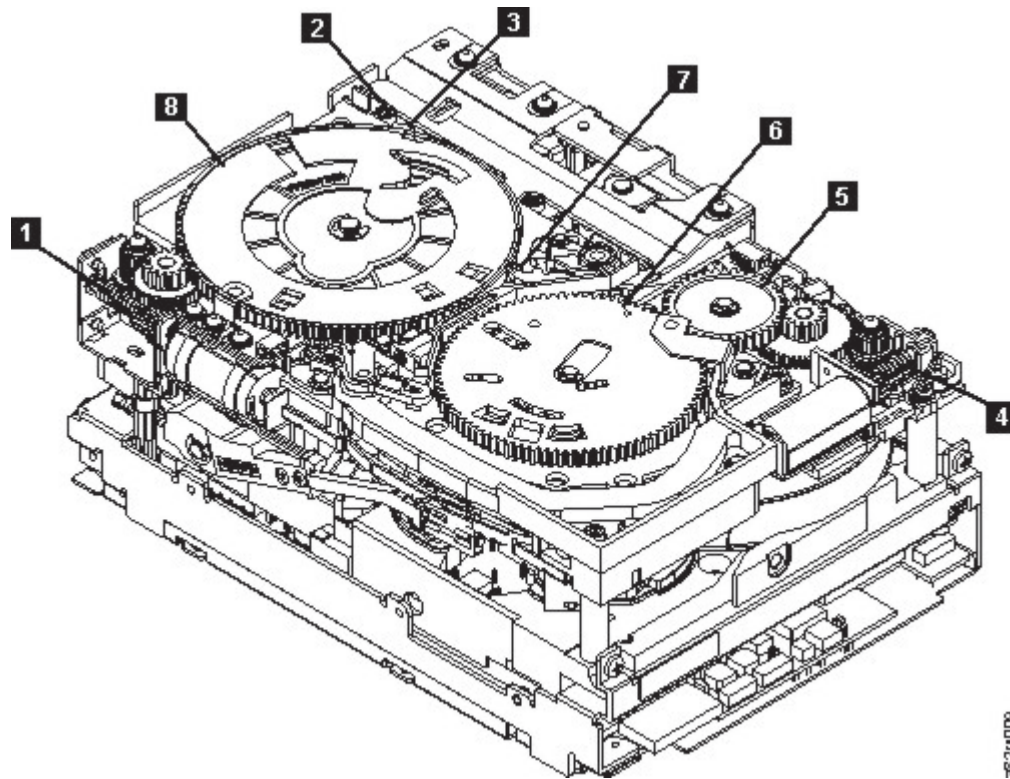
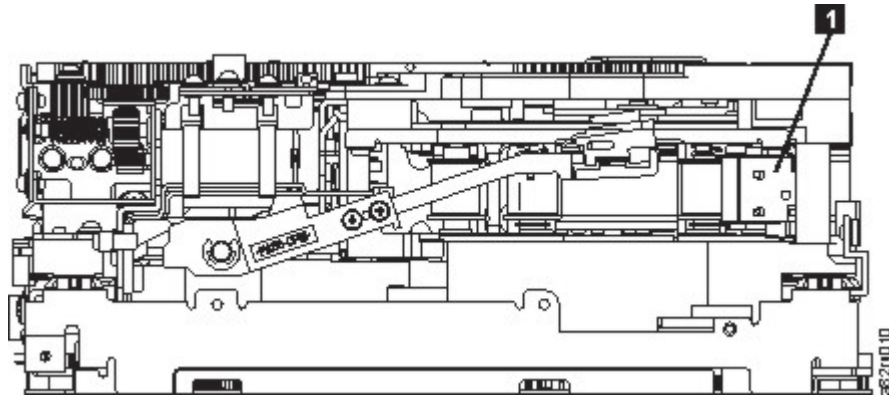

Figure 123. Drive with cover removed to reveal gear train.
Figure 124. Leader Block Assembly (LBA)
6. Locate the threader motor worm gear (4 in Figure 123 on page 258) on the rear of the drive. Use your finger to rotate the threader motor worm gear and slowly rotate the threader mechanism gear (6 in Figure 123 on page 258) clockwise.
This action rotates the threader motor worm gear (4 in Figure 123 on page 258) clockwise, drawing the LBA into the cartridge.
7. As the tape leader block assembly (LBA) is secured in the cartridge, you hear the LBA retention spring clips click into place. If you do not hear the click, continue rolling until the threader motor worm gear (**4** in Figure 123 on page 258) stops. The LBA is in the correct position.
- Loader mechanism gear (**6** in Figure 123 on page 258) nearest the front of the drive that actuates the cartridge loader mechanism.
- Position of the rotate stub (**3** in Figure 123 on page 258).
- Front loader motor worm gear (**1** in Figure 123 on page 258). Rotating this gear allows the loader mechanism gear (**8** in Figure 123 on page 258) to turn.
9. Rotate the loader motor worm gear (**1** in Figure 123 on page 258) to turn the threader mechanism gear (**6** in Figure 123 on page 258) counterclockwise. Continue turning until the rotator stub (**3** in Figure 123 on page 258) loses contact with the lever (**7** in Figure 123 on page 258). This action releases the LBA leader pin.
10. Rotate the threader motor worm gear (**4** in Figure 123 on page 258) to turn the threader mechanism gear (**6** in Figure 123 on page 258) counterclockwise. This action moves the LBA out of the cartridge and past the read/write head. Stop this rotation when the LBA is near the tape guide roller nearest the rear of the drive that is shown as **1** Figure 124 on page 259.
11. Continue rotating the loader motor worm gear (1 in Figure 123 on page 258) until the rotator stub (3 in Figure 123 on page 258) is positioned as shown. Notice that the rotator stub (3 in Figure 123 on page 258) is nearly aligned with the cartridge loader tray guide bearing (2 in Figure 123 on page 258).